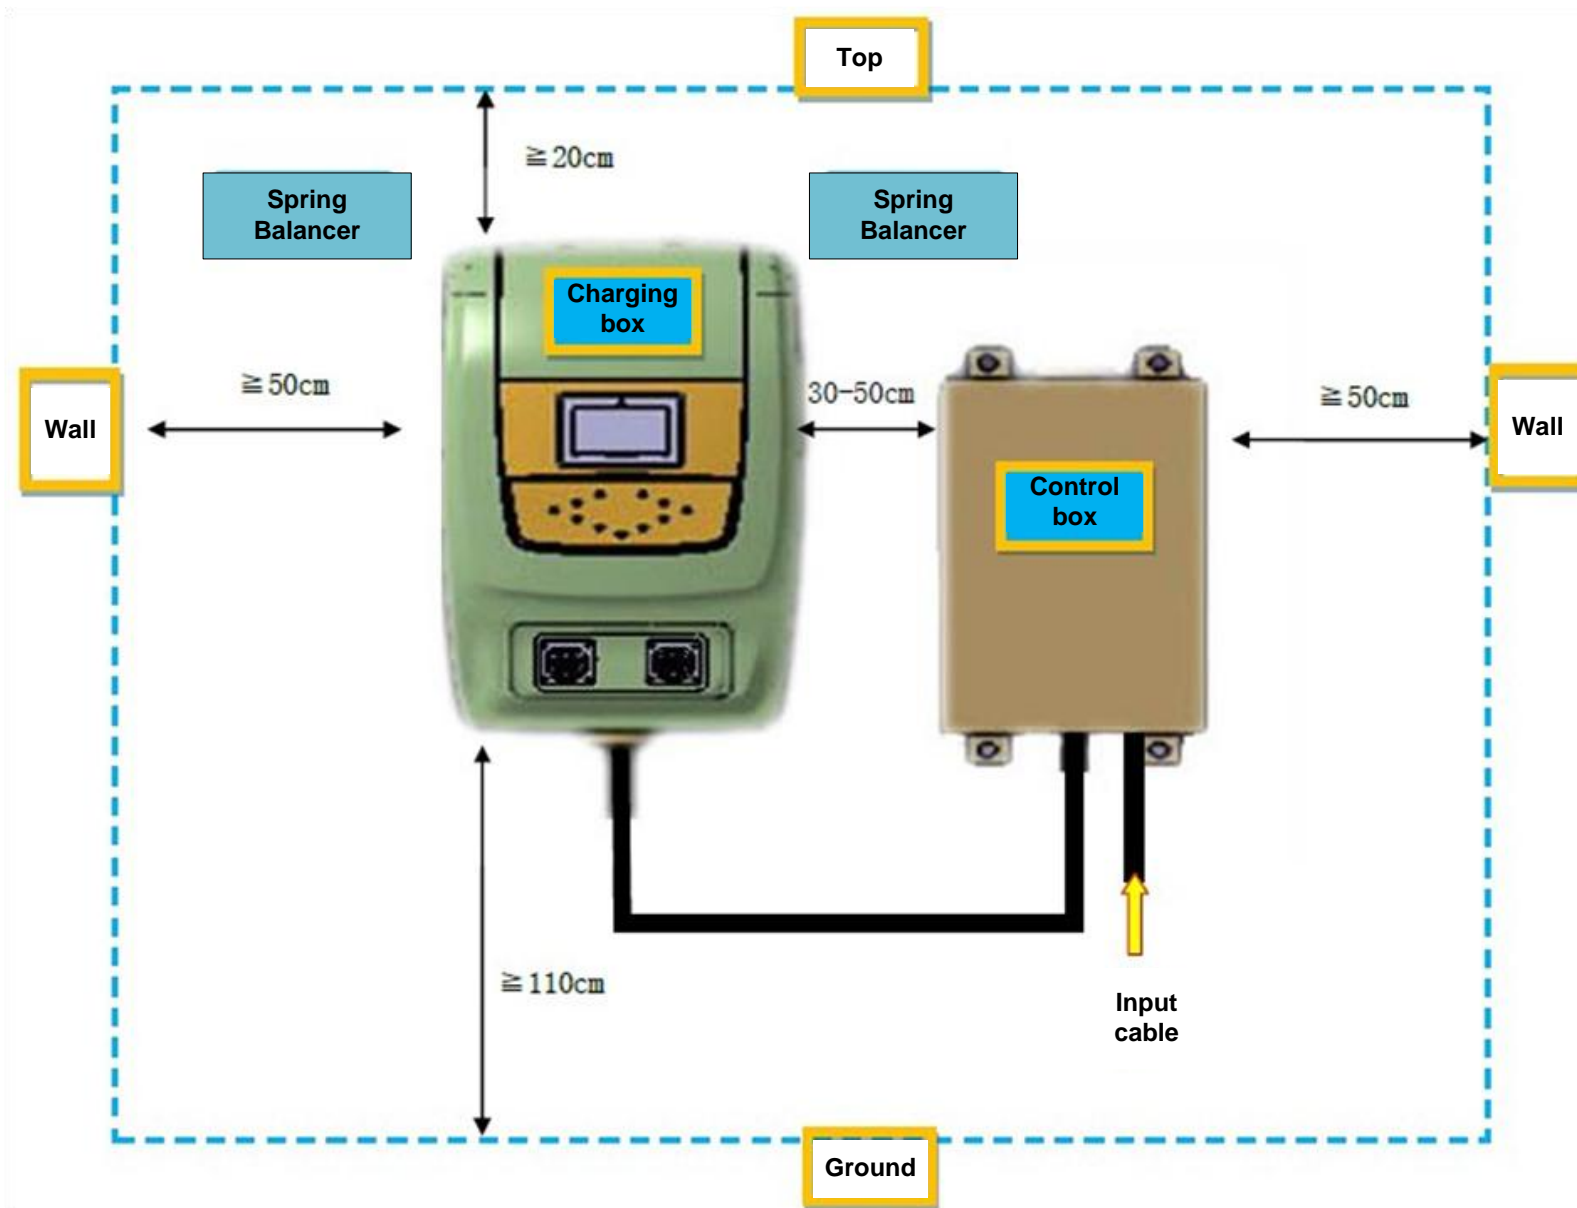

Fig. 2.1 Diagram of minimum installing distance
- Step6: Use  $\Phi 6$  expansion rubber plug and M4 x20 Self-tapping screws to fix the spring balancer in the position shown in Fig. 2.1.